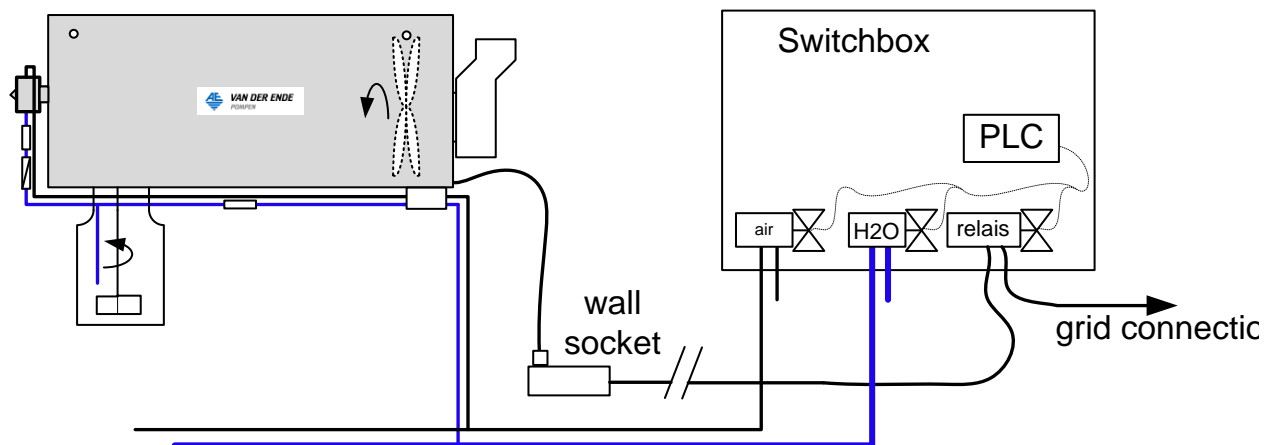

Figure 4. Installation of the Enbar, U2 type.
- Refer to figure 4 for a situational sketch.